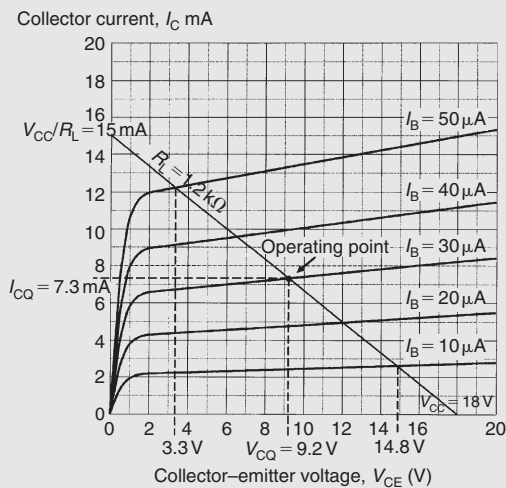

Figure 12.25
**Problem 11.** The characteristic curves shown in Fig. 12.25 relate to a transistor operating in common-emitter mode. If the transistor is operated with  $I_B = 30 \mu\text{A}$ , a load resistor of  $1.2 \text{ k}\Omega$  and an  $18 \text{ V}$  supply, determine (a) the quiescent values of collector voltage and current ( $V_{CQ}$  and  $I_{CQ}$ ) and (b) the peak–peak output voltage that would be produced by an input signal of  $40 \mu\text{A}$  peak–peak.
(a) First we need to construct the load line on Fig. 12.25. The two ends of the load line will
(b) Next we can determine the maximum and minimum values of collector–emitter voltage by locating the appropriate intercept points on Fig. 12.25. Note that the maximum and minimum values of base current will be  $(30 \mu\text{A} + 20 \mu\text{A}) = 50 \mu\text{A}$  on positive peaks of the signal and  $(30 \mu\text{A} - 20 \mu\text{A}) = 10 \mu\text{A}$  on negative peaks of the signal. The maximum and minimum values of  $V_{CE}$  are, respectively,  $14.8 \text{ V}$  and  $3.3 \text{ V}$ . Hence,